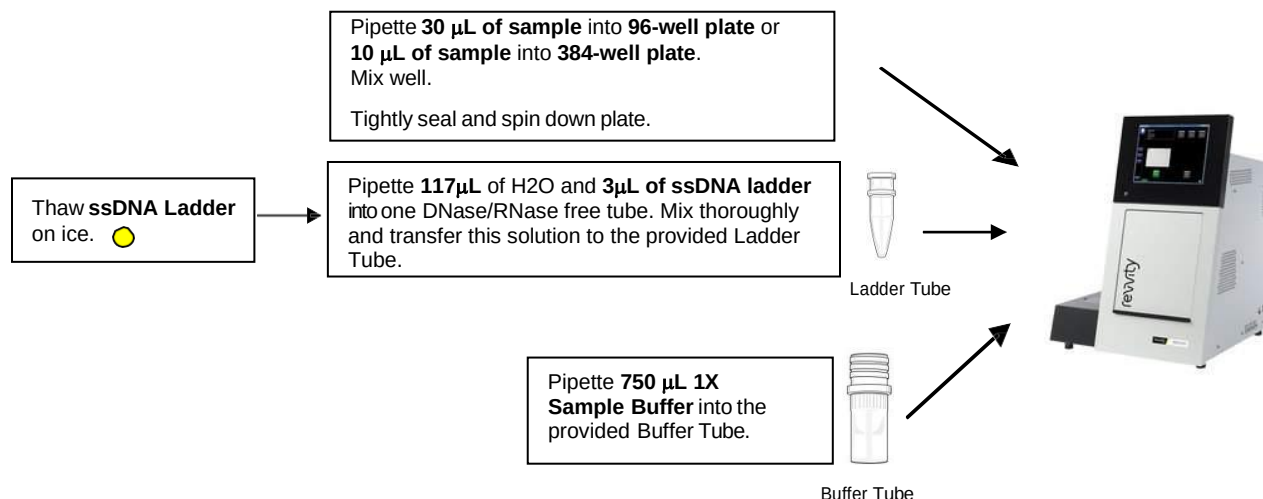

Figure 3. Sample, Ladder Tube, and Buffer Tube Preparation
2. Prepare sample, Ladder Tube and Buffer Tube according to **Figure 3**. In LabChip® GX Touch™ software, select “HT DNA5K” assay, then click “ssDNA 7K” program to RUN.